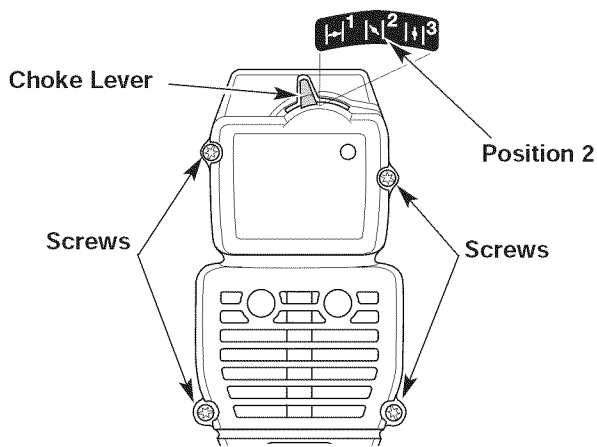

Fig. 13
NOTE: The start control must be in Position 2 (Fig. 13) to remove the air filter/ muffler cover.
2. Remove the four (4) screws securing the air filter/muffler cover (Fig. 13). Use a flat blade or # T20 Torx bit screwdriver.
NOTE: The choke lever must be in Position 2 (Fig. 13) to remove the air filter/ muffler cover.
2. Insert the four (4) screws into the holes in the air filter/muffler cover (Fig. 13) and tighten. Use a flat blade or # T20 Torx bit screwdriver. Do not over tighten. Do not force.